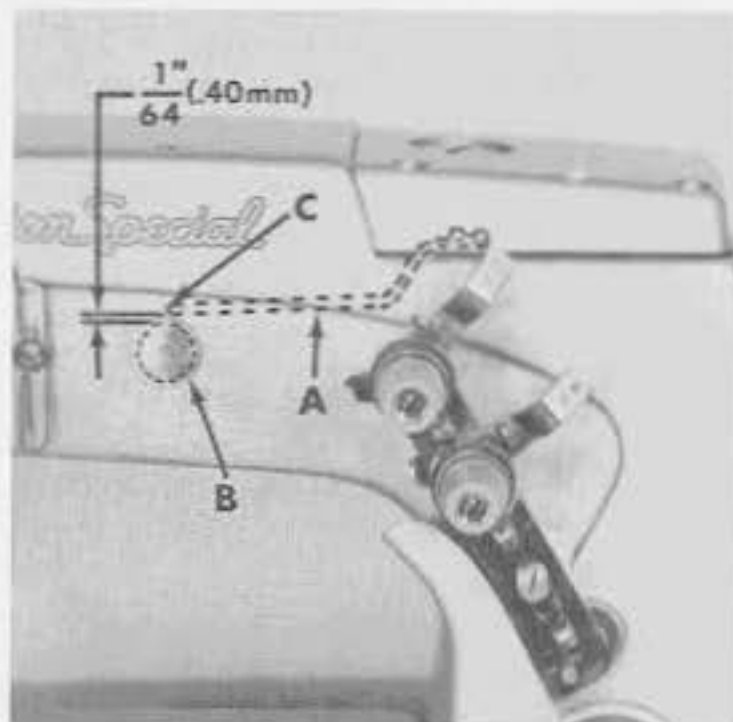

Fig. 3
Remove the head cover and upper crank chamber cover (G, Fig. 2). Check position of needle lever bearing oiler (A, Fig. 3) located inside the arm casting, below the upper crank chamber cover, which lubricates the needle lever stud (B). Make sure it is tilted downwardly and that its delivery end (C) contacts the inside wall of the bed casting at the back, just above the notch of the needle lever shaft stop collar. (Do not allow the oiler to rest on the needle lever). Allow 1/64 inch (.40mm) clearance as in Figure 3.